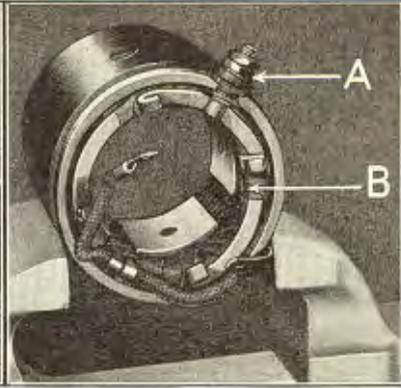

Fig. 490
- 961** Loosen terminal nut (See "A" Fig. 490) and lift out pole pieces and field coil assembly "B".